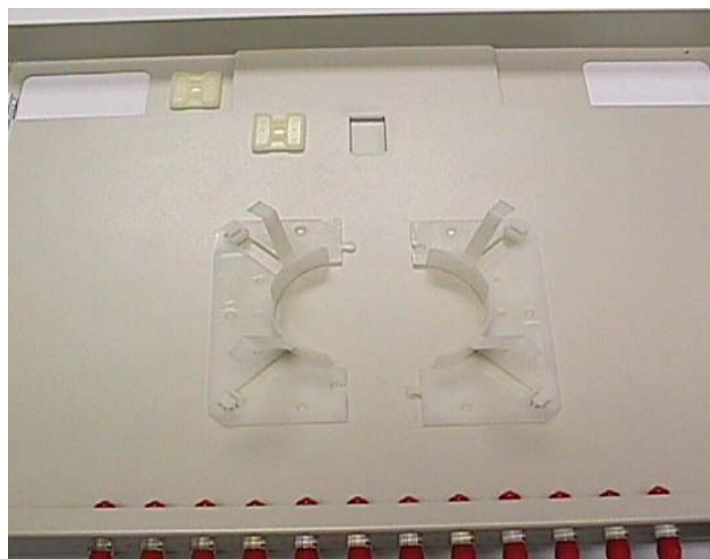

Figure 5.3
- 5.3.1 Apply adhesive fiber ring as shown in Figure 5.3
- 5.3.2 Apply adhesive tie wrap blocks as shown in Figure 5.3